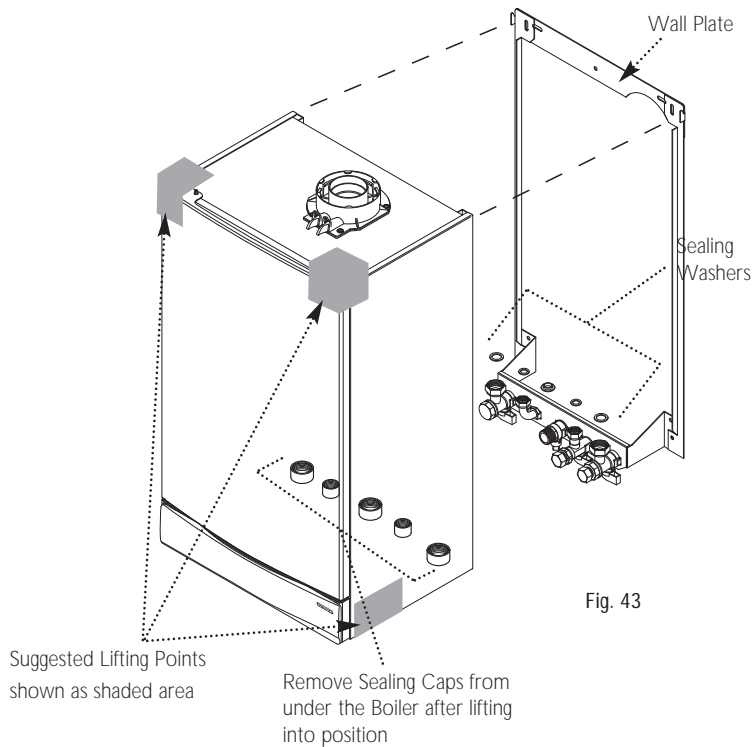

Fig. 43
2. Lift the boiler as indicated by the shaded areas. The boiler should be lifted by TWO PEOPLE. Engage the slots at the top rear of the boiler on the wall plate (Fig. 43) (see **Safe Manual Handling** page 5).